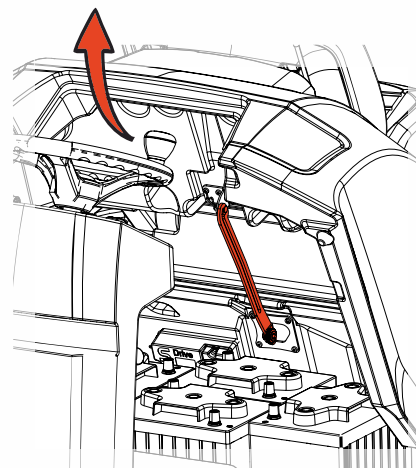

Fig. 10
- Open the front panel and pull into the top position, the front panel automatically clicks into place. (Fig.10)